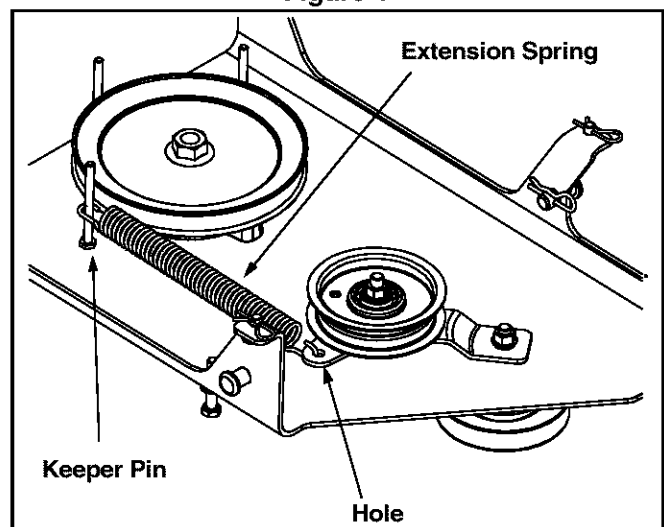

Figure 5
- Attach one end of the extension spring (732-0594A) to the hole in the idler assembly just mounted and the opposite end of the extension spring to the keeper pin as illustrated in Figure 5.